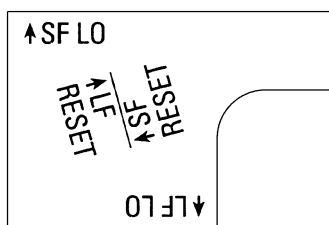

Figure 8-6. Orientation of the label on the bell alarm module for installation as a bell alarm with lockout.
- b. For installation as a bell alarm with lockout, the label on the end of the module should appear as in Figure 8-6, with the legend ↑ SF LO horizontal.